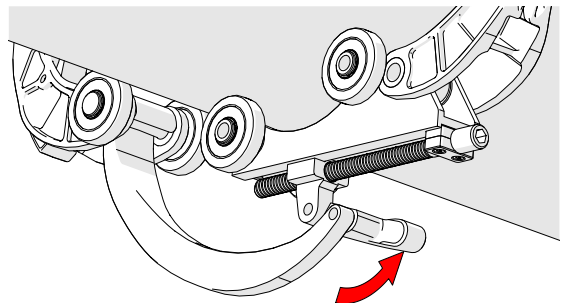

Fig. 92 - Press down to lock
7. Rotate the knob until the QuickLink Buckle's lever can be pushed down, locking the QuickLink Buckle in place (Fig. 92).